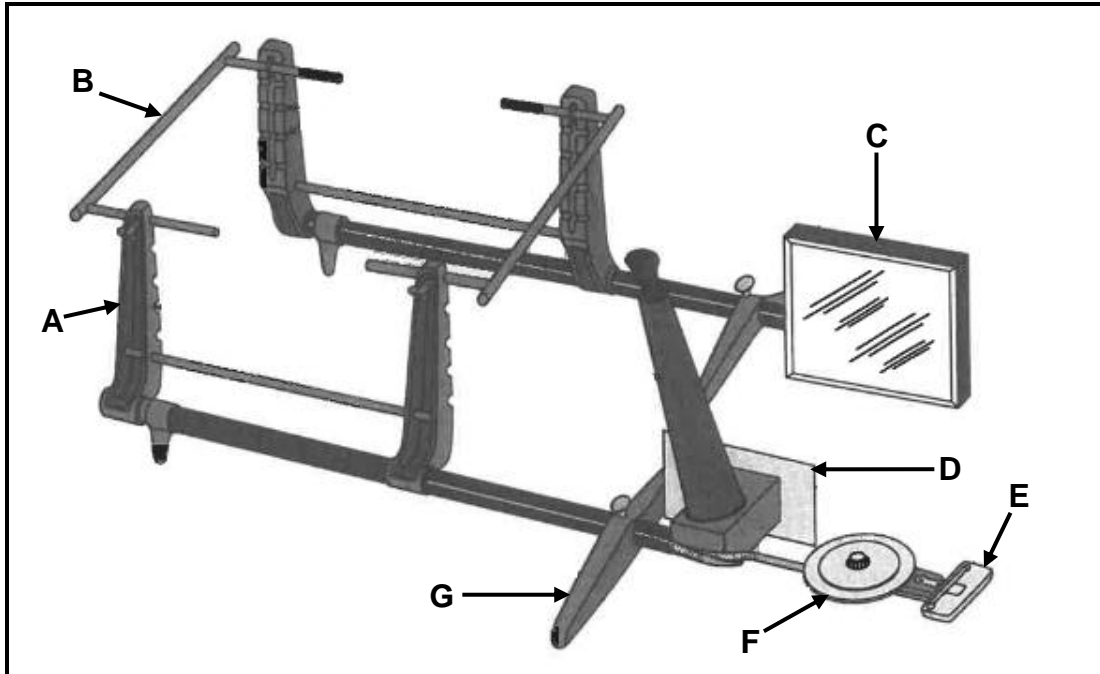

FIGURE 5.1
5.1 FIGURE 5.1 below shows a periscope optical alignment gauge. Answer the questions that follow.
5.1.1 Label **A–G** of the gauge shown in FIGURE 5.1. (7)
5.1.2 What is the function of the optical alignment gauge shown in FIGURE 5.1? (1)